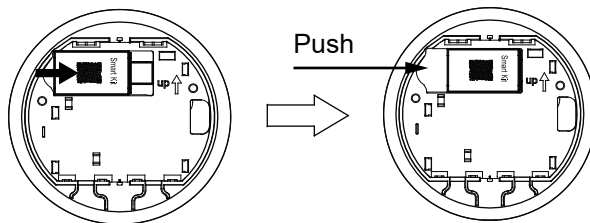

Figure 6.
2. Insert Smart USB into the main PCB of the Smart Port. Refer to Figure 6.